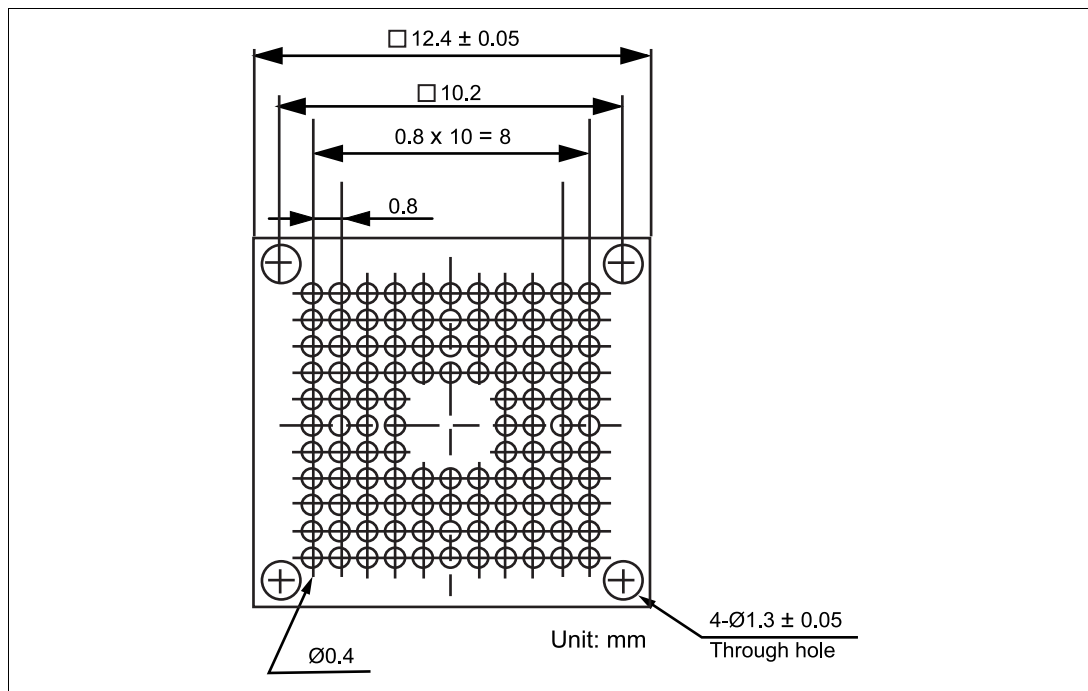

Figure 7 Recommended Dimensions for Mount Pad
- (3) Install the provided guide pins into the holes for the guide pins on the user system. Check that the pads are correctly aligned with the IC socket.
(4) Notes on soldering the IC socket
- a) The IC socket is larger than the actual IC package; therefore, refer to figure 7 for the installation of other components.
Figure 7 shows the recommended dimensions for the mount pad (footprint) for the user system with an IC socket for a BP-112 package (CSPACK112A1110H02: socket (manufactured by Tokyo Eletech Corporation)). Note that the dimensions in figure 7 are somewhat different from those of the actual chip's mount pad.